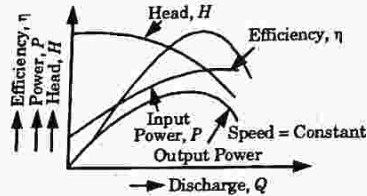

Fig. 4.25.2. Operating characteristics curves of a pump
- ii. Different characteristics curves are shown in Fig. 4.25.2.